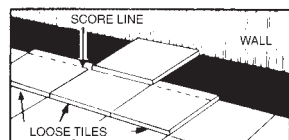

Figure 5 - Straight cuts.
- **Straight Cuts** - Place loose tiles directly over the top of the last full row of tile making sure all edges are lined up. Using a whole tile as a measuring device, position one edge against the wall and mark the loose tile with a pencil along the opposite edge (Figure 5).